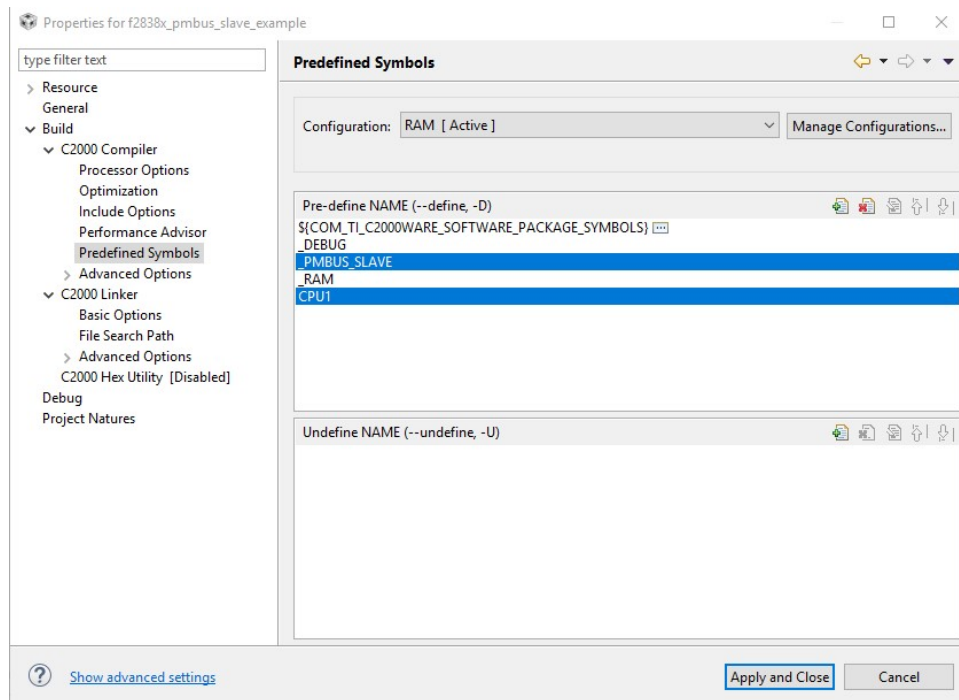

Figure 4.4: Compiler Predefined Symbols
3. For the target device, define **\_PMBUS\_TARGET** in the *Predefined Symbols* option under the C2000 Compiler menu, Fig. 4.4. If using F2838x, **CPU1** must also be defined.